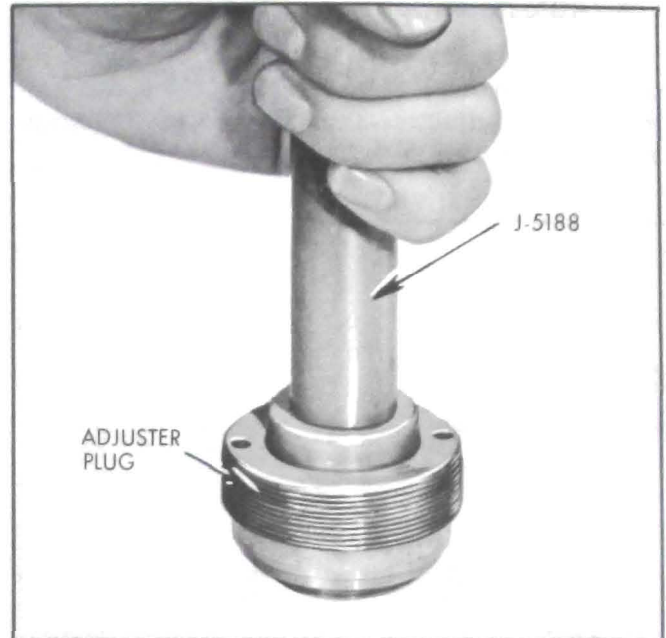

Figure 8-41—Installing Stub Shaft Seal
2. Lubricate new stub shaft seal with automatic transmission oil and install seal with spring in seal toward adjuster plug using Tool J-5188. See Figure 8-41. Install seal only far enough in plug to provide clearance for dust seal and retaining ring. Place new dust seal with lip up in plug, then install retaining ring with No. 3 Truarc Pliers, J-4245.